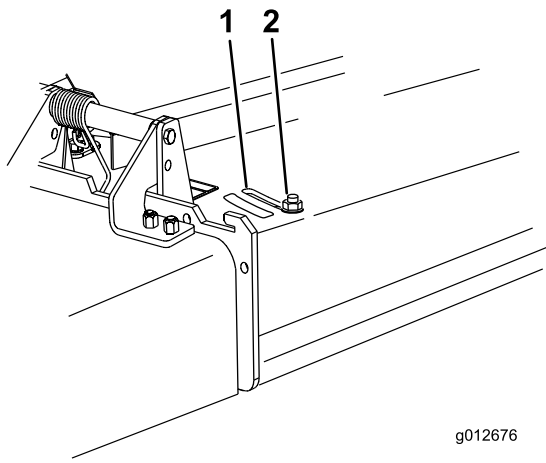

Figure 11
3. Loosen the nut (Figure 11).